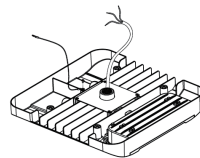

FIGURE 2
- (1) Attach one side of the safety rope to the light fixture and the other side to the ceiling to secure the light fixture during installation. (FIGURE 2)